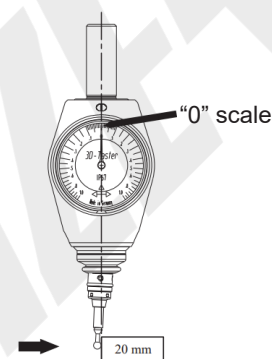

Figure 6
- Approach gage block at first side until the pointer points "0" (Figure 6).